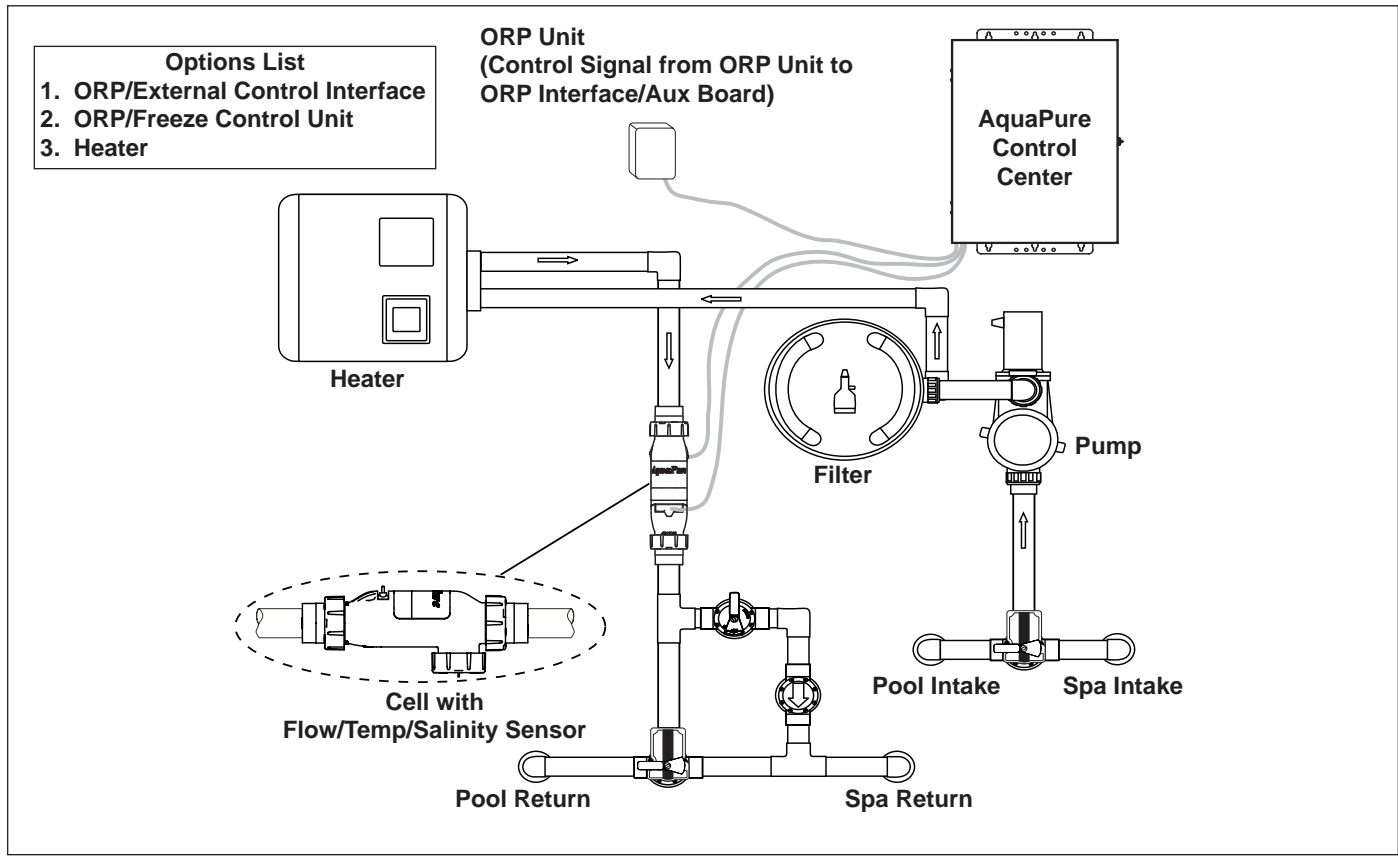
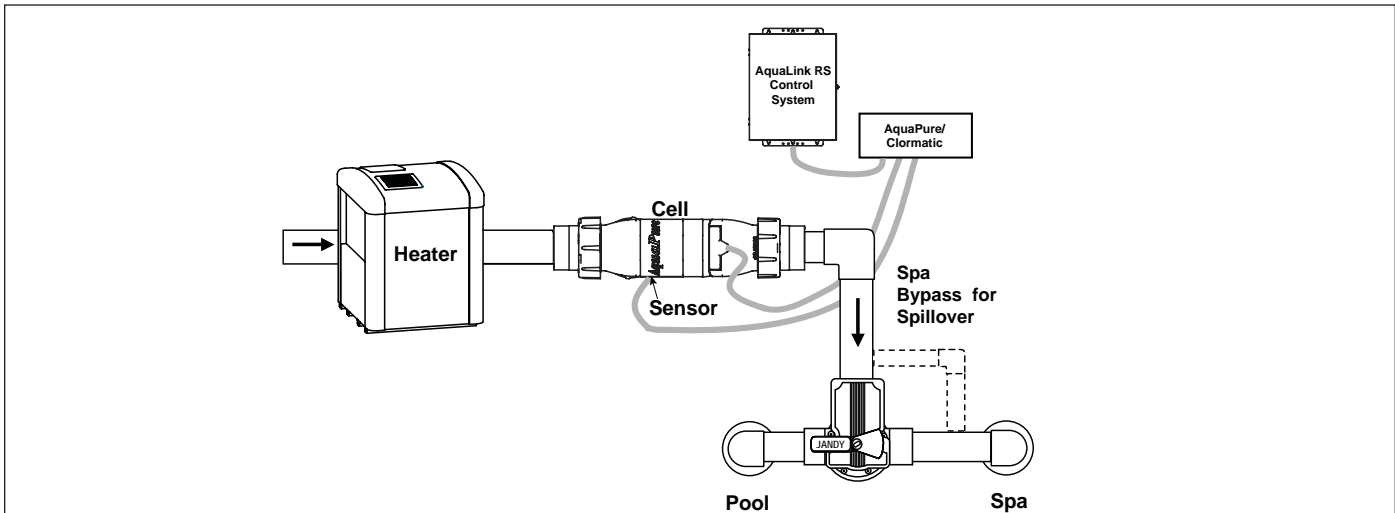

Figure 1. Typical AquaPure Installation With Options
Figure 4. Recommended Plumbing Configuration for Pool/Spa Combination Systems
It is recommended that the water Flow/Temp/Salinity Sensor is installed in the same piping as the electrolytic cell, without any valves or diverters between them. (See page 5 Figure 1).
The preferred installation is that the Cell and Sensors are plumbed in the return line to the pool after (downstream of) all the pool equipment (filter, heater, solar, etc.). The Cell and Sensor fitting are designed to be plumbed into 2" PVC pipe. Adapters can be used for systems with 1½" plumbing. Figure 3 shows cell and sensor configuration with flow direction. Figures 4 and 5 illustrates the recommended plumbing configurations, which result in the most reliable operation.
3. Position the Flow/Temp/Salinity Sensor and Cell in the recommended position (see page 8 Figure 3, page 9 Figures 4 and 5, and page 5 Figure 1).
4. Locate a suitable section of pipe, approximately 17 inches (432 mm) long or follow the recommended plumbing diagrams beginning on page 9, Figures 4 and 5. The Flow/Temp/Salinity Sensor cable and Cell DC cord ***must*** be able to reach from the control center to this section.